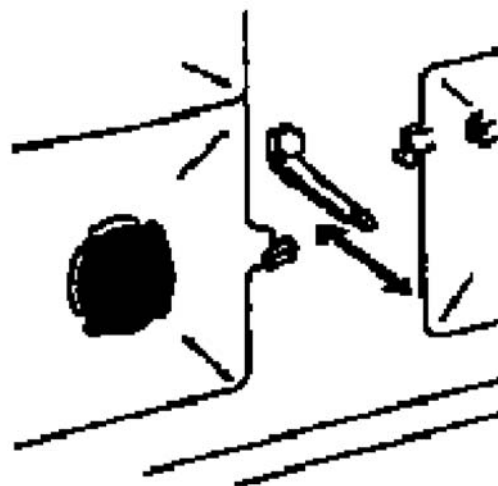

Fig. 3
5. De-ash (Fig. 3) also see page 3 **De-ashing** and remove any dead fuel from bottomgrate as described under '**Removal of Clinker and Bottomgrate**'.
4. De-ash (Fig. 3) and insert flay bayonet type gas poker on top of bottomgrate.
Open the ashpit door to give access to the ashpan which must be emptied regularly (Fig. 3). The class of fuel and cooker usage govern the frequency of refuelling.